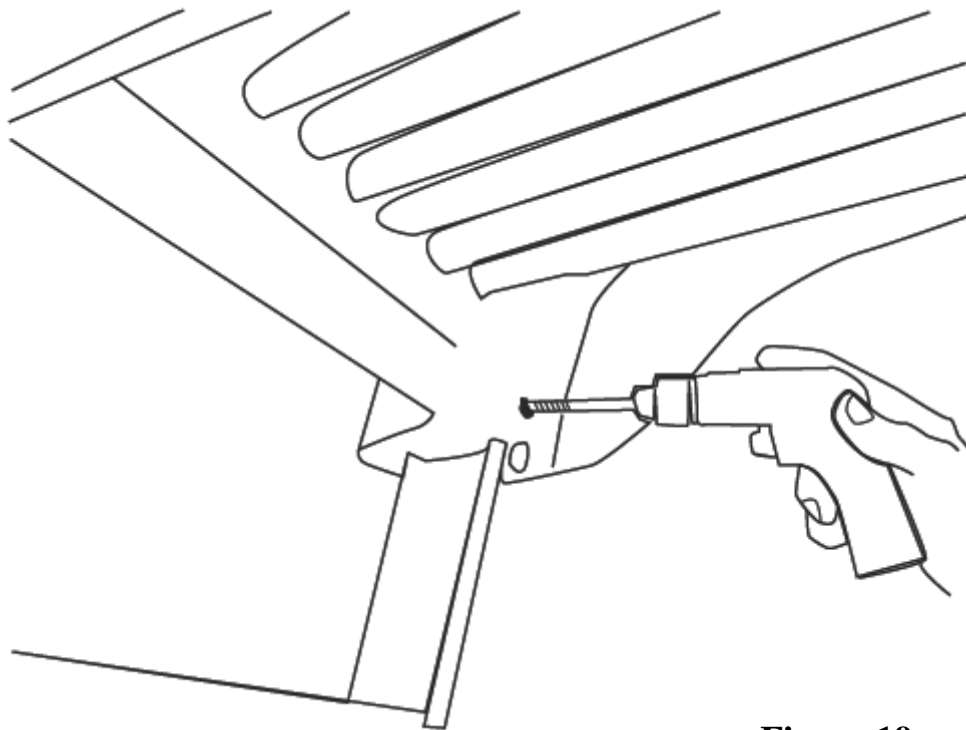

Figure 19
- 19)** Underneath the top portion of the slide, on the inside flat surface next to the ladder socket, use the existing holes as a template to drill a 1/4-inch hole through each ladder side rail as shown below in Figure 19.